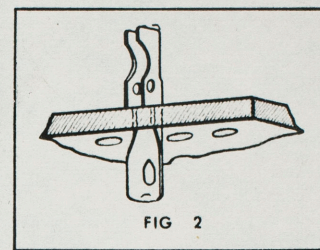

FIG 2
3. Optional Hand Staking Possible: Although no staking is required it may be staked if desired. Fig. 2 illustrates one staking method. Here the small end of the terminal has been flared using "flats" or needle nose pliers. This prevents it from pulling out. After flaring, the small end of the terminal may be cut if it is not needed with a pair of cutting pliers.